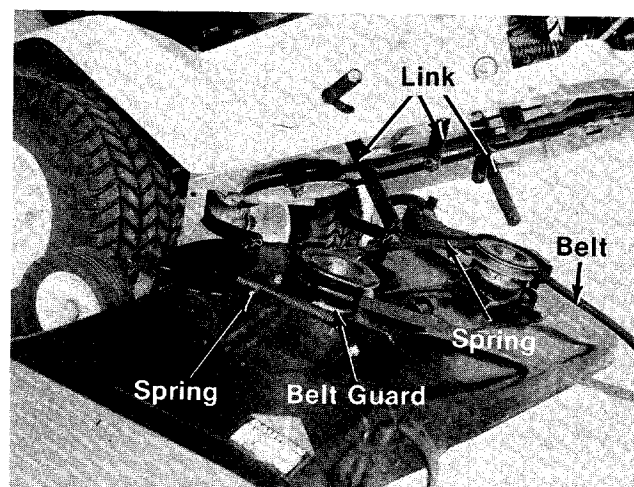

FIGURE 35.
5. Remove the two deck tension springs. (See figure 35.)
6. Remove the cotter pins holding the four front deck links. The deck can now be tipped forward. (See figure 35.)
6. Unhook the tension springs. (See figure 35.)